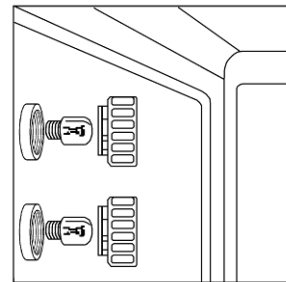

Fig. 15
- Unscrew the protective cap in glass (Fig. 15);